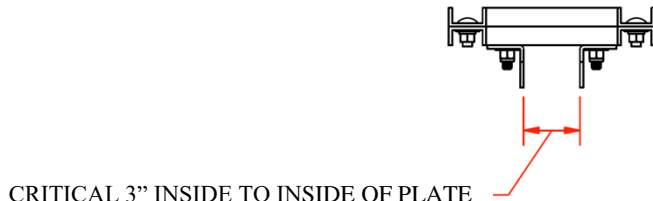
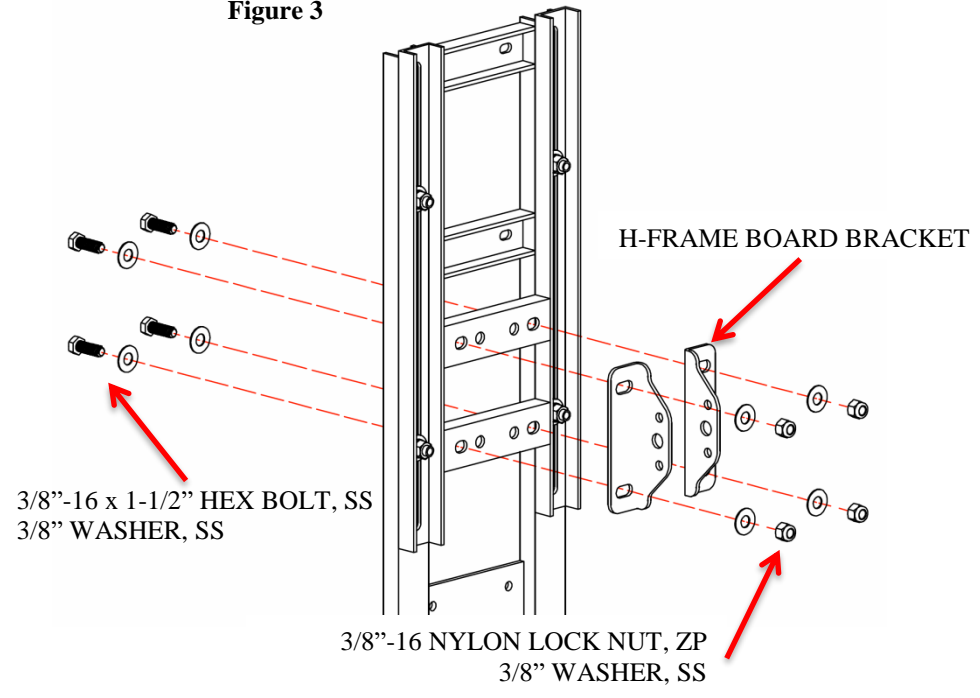

Figure 5
Figure 4
3. Attach H-Frame board bracket to the inner H-Frame slot channel holes. Use 1/2" hex bolt hardware as shown (Figure 4). Set the distance between brackets to be 3-3/8" as shown (Figure 5). Do not tighten hardware.